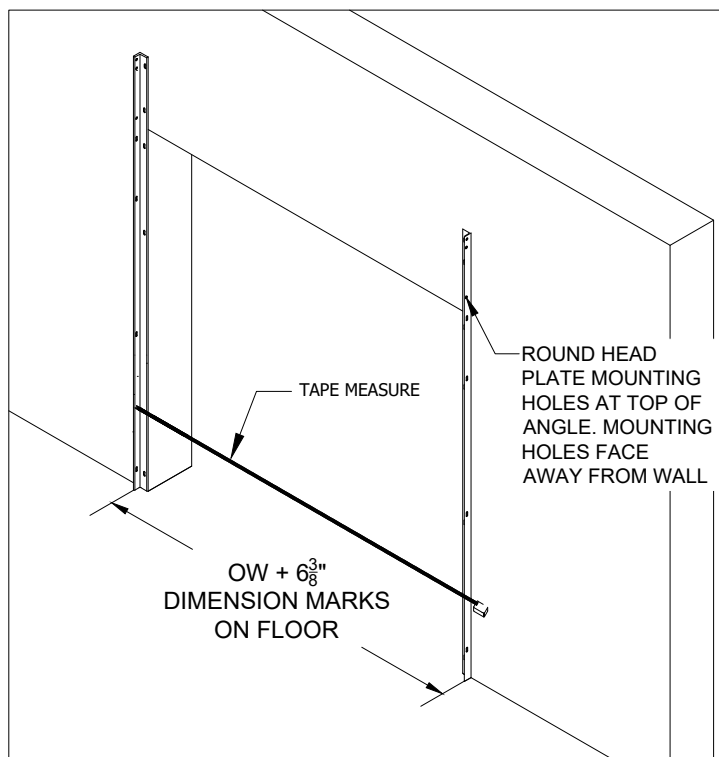

FIGURE 2
- e.a. Use Figure 2 as a method of installing opposite wall angle.